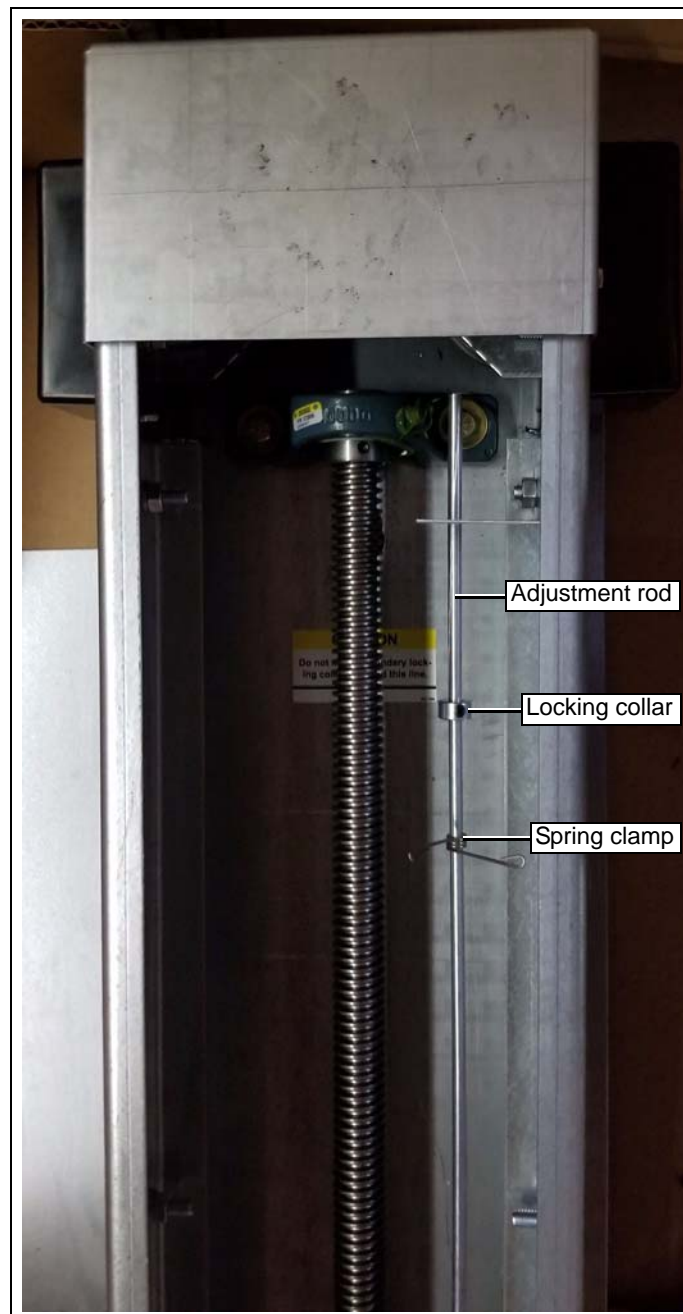

Figure 3E
11. Close the curtains/vents fully using the manual mode of the controls. Set the lower limit by pinching the spring clamp together and sliding it up or down the rod. To prevent damage, do not set travel limits outside of the travel range indicated by the decals. The locking collar on the rod is factory set as a redundant fail safe. (See Figure 3E.) **NOTE:** Take up excess slack in the cable using the manual winch while paying close attention not to overtighten.
12. Open the curtains/vents to the desired height using the manual mode of the controls. Set the upper limit by pinching the spring clamp together and sliding it up or down the rod. To prevent damage, do not set travel limits outside of the travel range indicated by the decals. The locking collar on the rod is factory set as a redundant fail safe. (See Figure 3E.)
13. Re-install the front cover. This will protect the integrity of the machine and ensure the safety of those working on or near the machine. (See Figure 3E.)